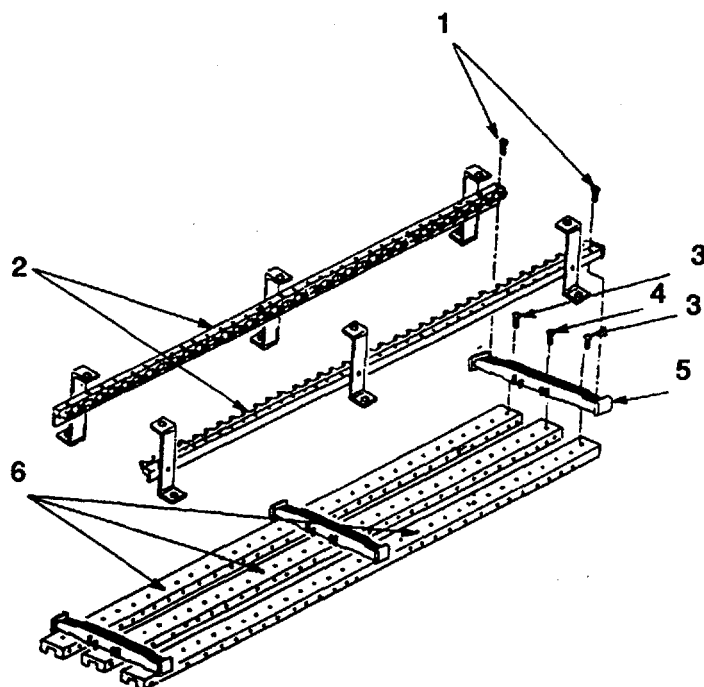

Figure 5-7. Sub Chassis Bus Bar.
- (3) Remove twelve screws (3).
- (4) Remove twelve screws (4), two connectors (5), two connectors (6), and two connectors (7).
- (5) Remove six screws (8) and sub chassis bus bar (9).
- (6) Remove four plastic rivets (10) and two paper insulators (11).
- (7) Remove six screws (12) and three sub chassis brackets (13).
- (8) Remove twelve screws (14) and six bus bar connectors (15).
- (9) Remove six screws (1, Figure 5-7) and two breaker mounting rails (2).
- (10) Remove six screws (3), three screws (4) and three bus supports (5) and bus bars (6).
- (11) Refer to main bus bar removal procedures, para c, for further disassembly.
- a. Attach three bus supports (5, Figure 5-7) to three bus bars (6) with six screws (3) and three screws (4). Tighten nine screws.
- b. Attach two breaker mounting rails (2) to three bus supports (5) with six screws (1). Tighten screws.